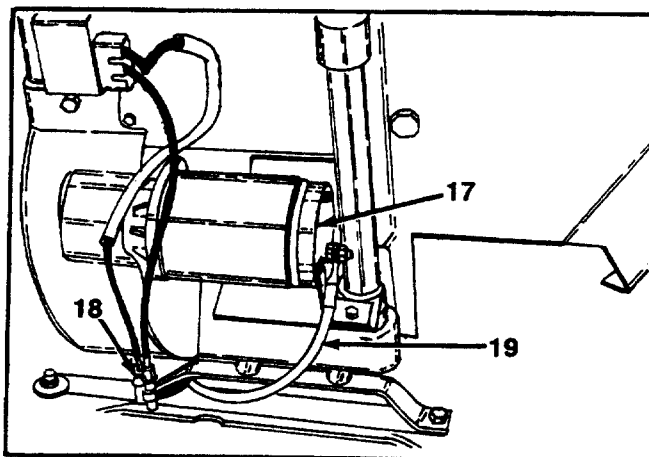

FIGURE 12.
12. Disconnect the wire harness connector located at the right hand side of engine. See figure 12.
13. Remove hex nut, holding electrical wire at starter, located at right hand side of engine. See figure 12.